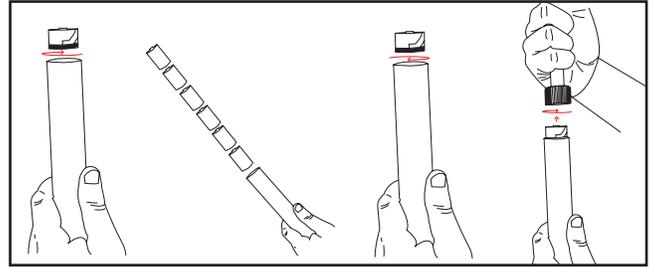

Figure 2.8.1 - Insert Batteries into the Pendant
**8.1 - On Alkaline battery powered units**, untwist the Pendant Cap and insert (6) or (8) D Cell Alkaline batteries, negative end first. Then replace cap. Twist the Pendant onto the Pendant Lock until you feel it lock into place. See Figure 2.8.1.